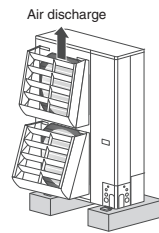

Fig. 2-6
- the air discharge outlet is facing a sidewalk and discharged hot air annoys passers-by. (Fig. 2-6)